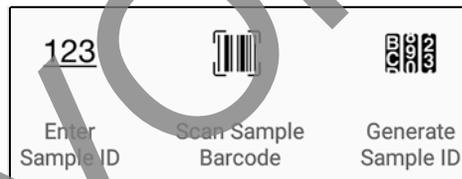

Figure 9. Sample ID Icons
12. Enter the Sample ID by manually entering or scanning or randomly generating a Sample ID (see Figure 9):